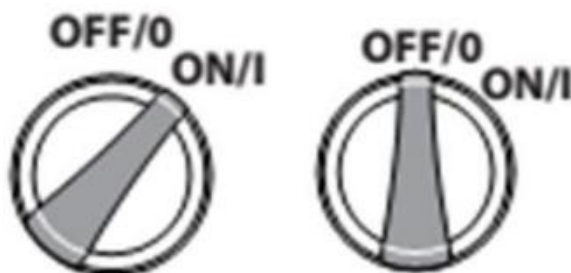

Fig.9
5. Set the power switch at the position "I".(Fig.9)
2. Set the switch at the position " O".(Fig.9)
2. Turn off the power switch (the position " O").(Fig.9)